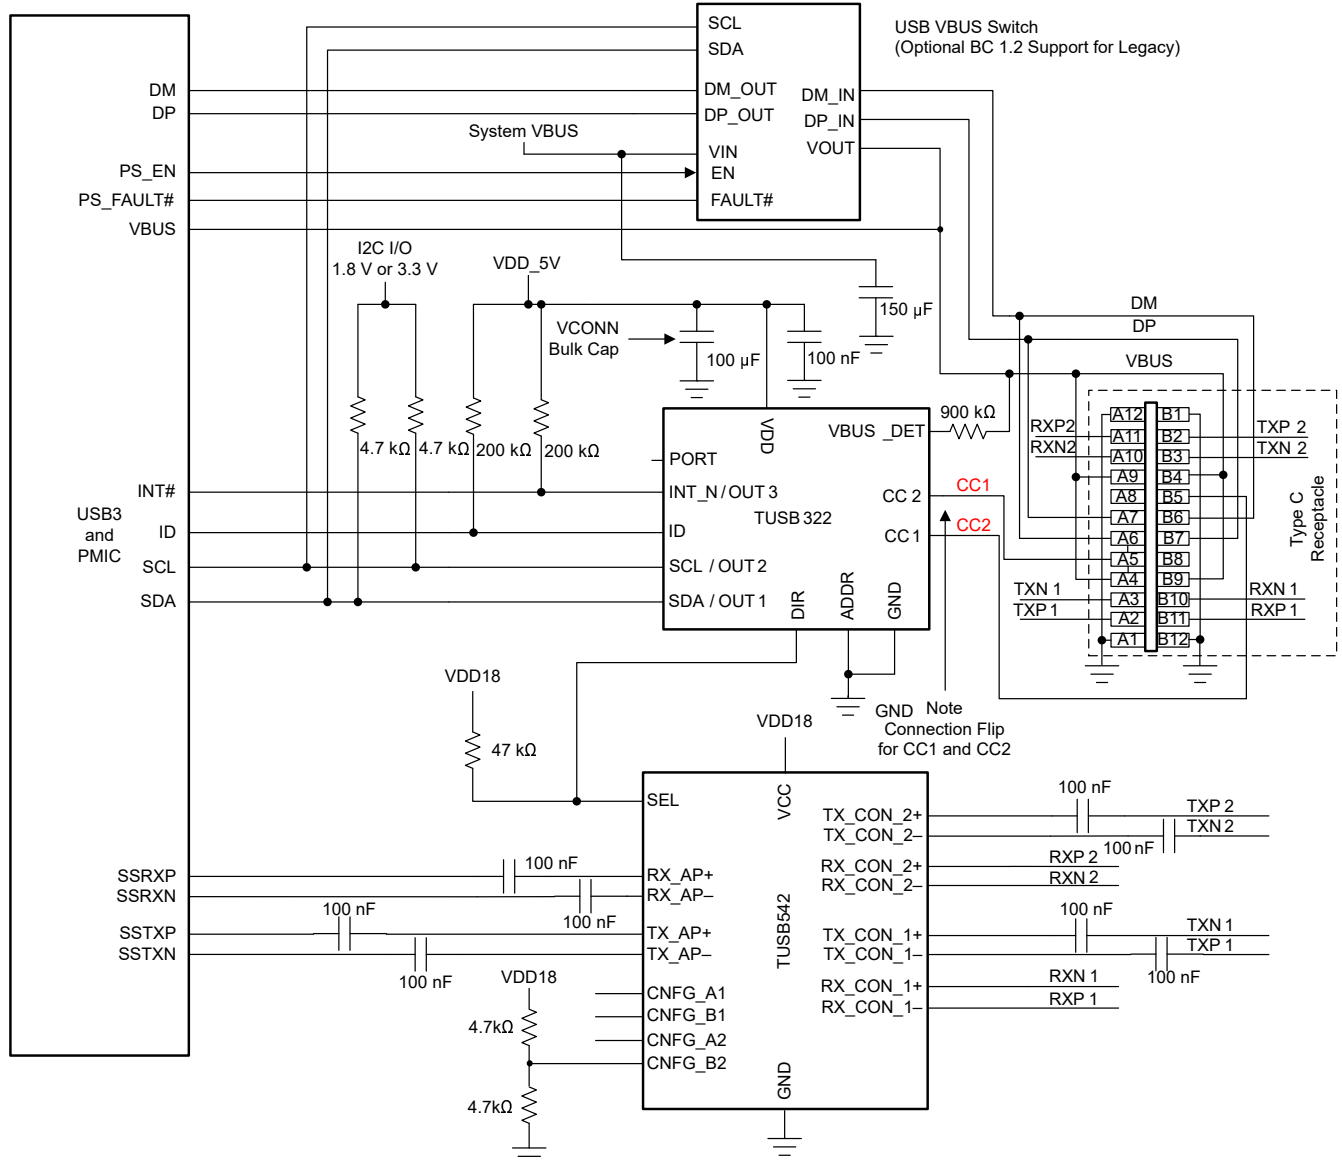

图 7-2. USB-C DRP Implementation Using TUSB542 and TUSB322/TUSB321
**图 7-2** shows an example implementation of an USB Type-C DRP port using TUSB542. Texas Instruments TUSB322 is shown here as channel configuration (CC) controller. Note: connections for CNFG pins of TUSB542 is an example only. The connection of the CNFG pins is application dependent; refer to 表 6-2, where the user can find the available settings.
图 7-2 shows an example implementation of an USB Type-C DRP port using TUSB542. Texas Instruments TUSB322 is shown here as channel configuration (CC) controller. Note: connections for CNFG pins of TUSB542 is an example only. The connection of the CNFG pins is application dependent; refer to the 表 6-2, where the user can find the available settings.